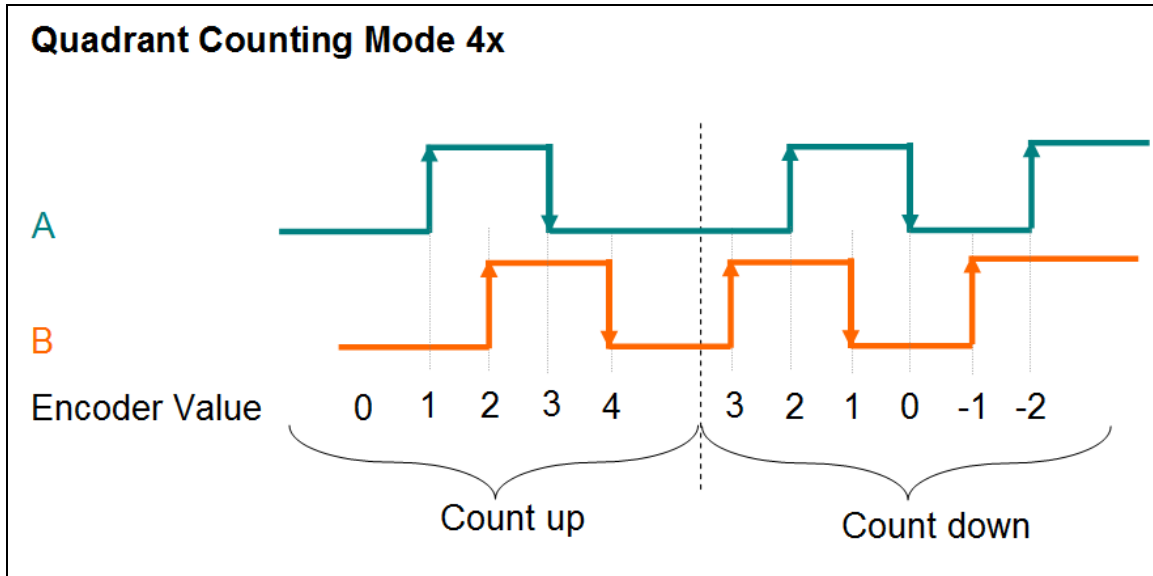

Figure 29: Quadrant counting mode
In the **quadrant counting mode** (Figure 29) the encoder counter increments when signal "A" leads signal "B" and decrements when signal "B" leads signal "A". For example if the last input signal for both "A" and "B" was off and in the next cycle "A" is on and "B" is off then the direction is clockwise and the counter increments by one, but if "A" is off and "B" is on then the direction is counterclockwise and the counter decrements by one. Both the rising and falling edges of "A" signal and "B" signal are counted.
- By changing the polarity of signal "A" for the quadrant counting mode (Figure 29) results in a change of counting direction.